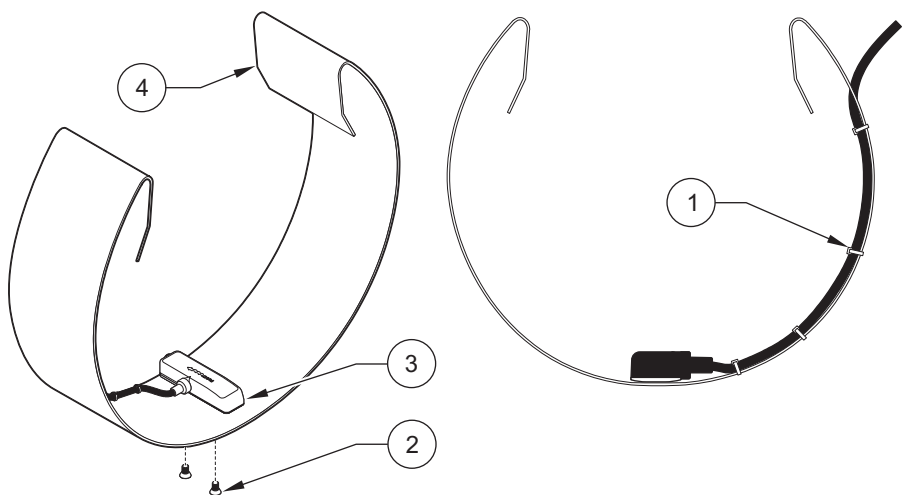

Figure 31 Attaching the Sensor to the Mounting Band
2. Route the cable along the edge of the band and fasten the cable to the mounting band with nylon wire ties (Figure 31 on page 56) to reduce the likelihood of debris collecting on the cable and the mounting band. The cable should exit the tied area at, or near the top of the pipe to keep it out of the flow stream.